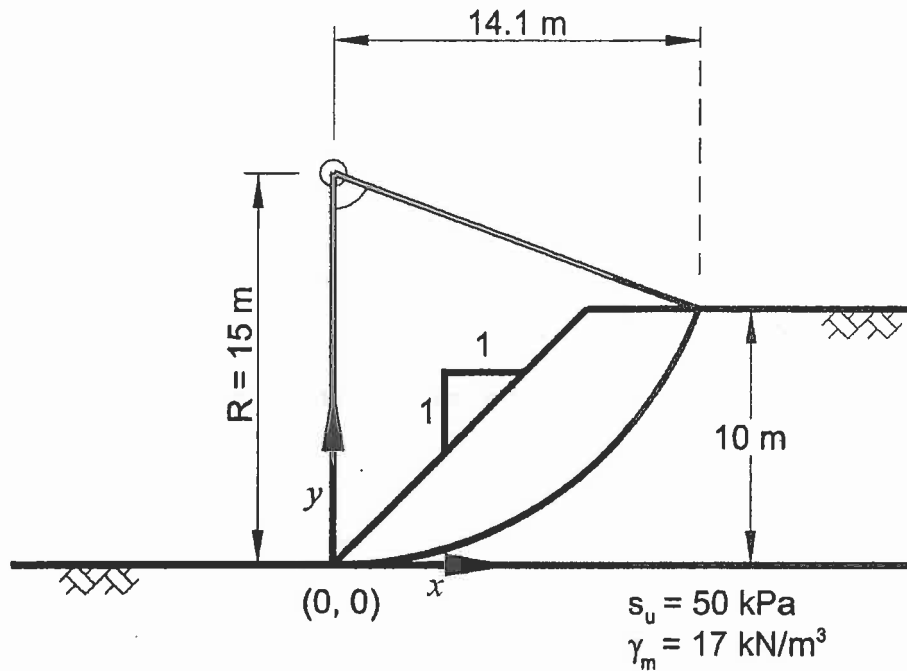

Figure 2
Figure 2 shows a 45° cut in a homogeneous clay with an undrained shear strength, $s_u = 50$ kPa. The height of the cut is 10 m. The clay is considerably stiff below the base of the cut implying that failure is likely to occur along a slip surface through the toe of the excavation. Calculate the Factor of Safety (FS) for the slip surface shown.